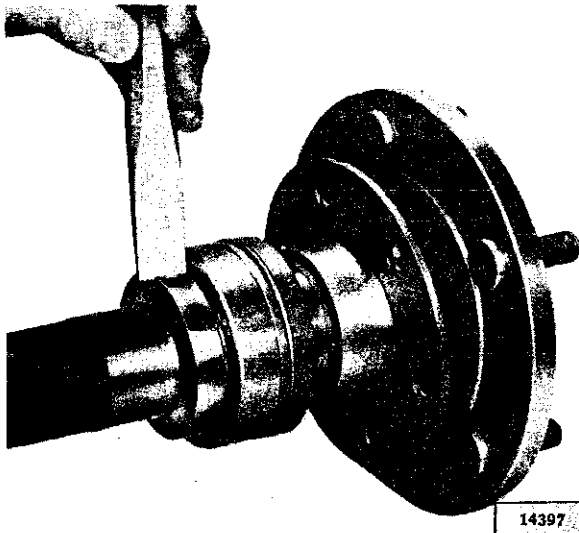

FIG. N-13—NOTCHING BEARING RETAINING RING
- a. Place the axle shaft assembly in a heavy vise. Drill a 1/4 inch [6,35 mm.] hole in the outside diameter of the retainer ring to a depth approximately 3/4 the thickness of the retainer ring. DO NOT drill all the way through the retainer ring because the drill could damage the axle shaft. After drilling the retainer ring, use a chisel positioned across the drilled hole and cut a deep groove into the retainer ring. This will enlarge bore of retainer ring or split the ring and permit it to be driven off of the axle shaft. Refer to Fig. N-13.